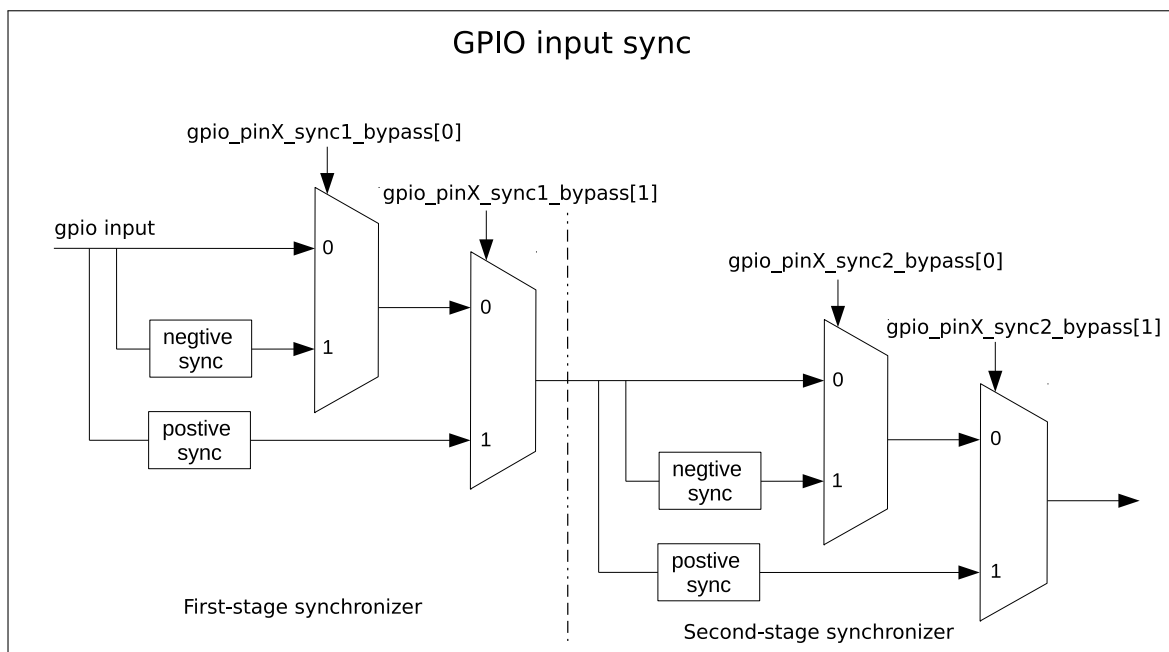

Figure 6-3. GPIO Input Synchronized on APB Clock Rising Edge or on Falling Edge
Figure 6-3 shows the functionality of GPIO SYNC. In the figure, negative sync and positive sync mean GPIO input is synchronized on APB clock falling edge and on APB clock rising edge, respectively.
- Set `GPIO_PIN x _SYNC1_BYPASS` to enable input signal synchronized on rising edge or on falling edge in the first clock, see Figure 6-3.
- Set GPIO_PIN_x_SYNC2_BYPASS to enable input signal synchronized on rising edge or on falling edge in the second clock, see Figure 6-3.